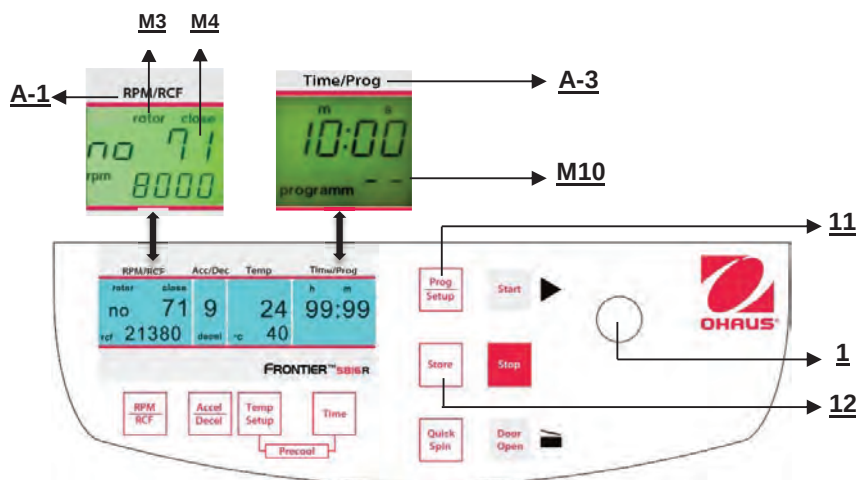

Figure. 25
To recall stored programs press the key **"Prog/Setup"** (11) (refer to figure 25) while the lid is already closed. Inside the display **"Time/Prog"** (A-3), **"programm--"** (M10) appears. The desired program number can be pre-selected with the adjusting knob (1).
To leave the program mode just press the key **"Prog/Setup"** (11) (refer to figure 25). Then inside the display **"Time/Prog"** the word **"programm"** appears.